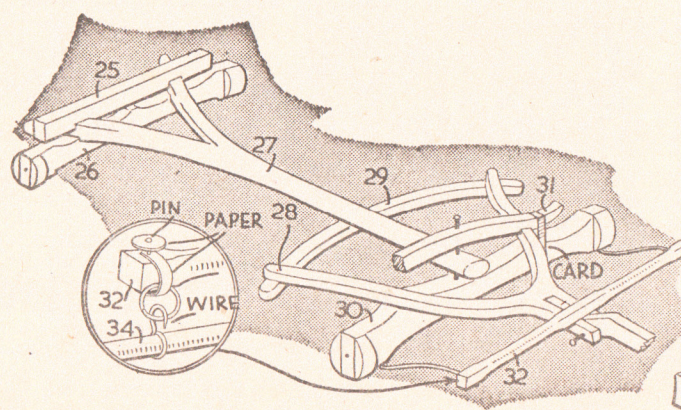

Fig. 6—The movable front chassis
The pin is not finally fixed because the movable front chassis portion comes between this part (27) and the floor, and is pivoted in also. The drawing at Fig. 6 shows the construction of this front undercarriage built very similarly to the other. It pivots on the same pin, and at the front end a draw bar (35) is also pivoted. This draw bar is rounded and fitted with a cross pin so it can be lifted and raised when not in use. The yoke portions are shown in the inside Fig. 6 as well as the method of fitting with wire and card to hang from the carriage portion.